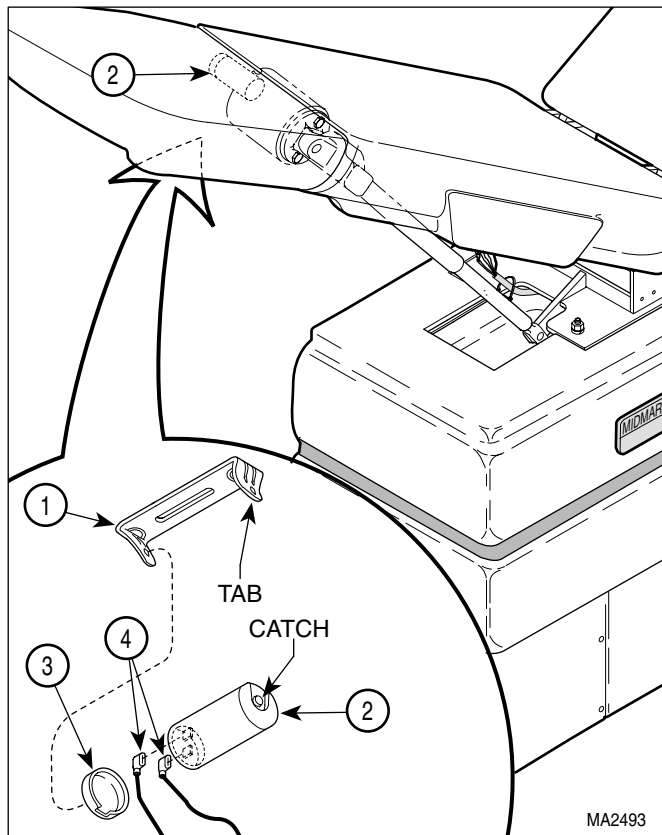

Figure 4-20. Tilt Capacitor
- (2) Unplug power cord from wall outlet.
- (3) Using a screwdriver, pry tab of mounting bracket (1, Figure 4-20) outward and separate tilt capacitor (2) from mounting bracket.
- (4) Remove capacitor cap (3) from tilt capacitor (2).